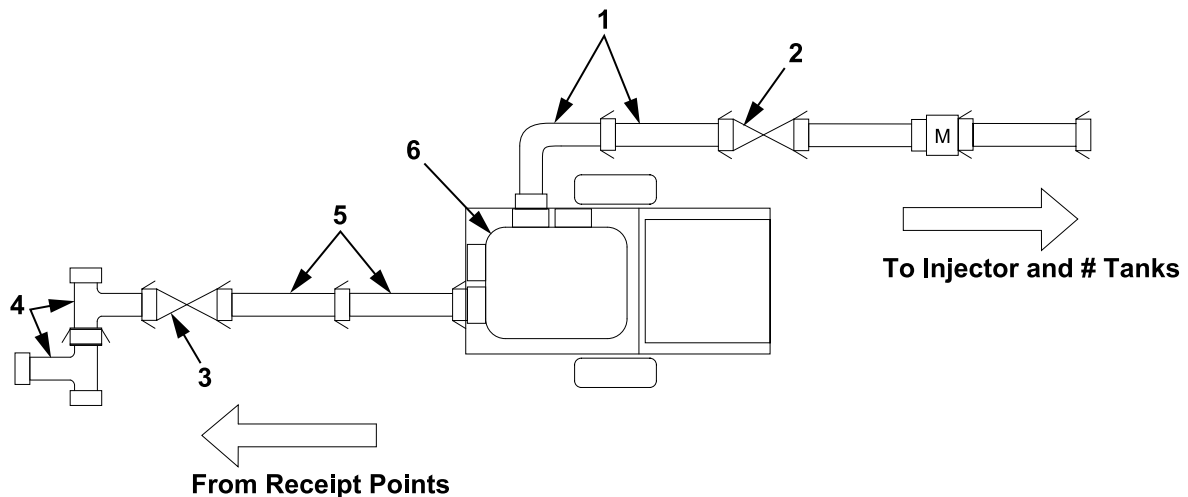

Figure 19. Installation of 350 GPM Fuel Pumping Assembly.
3. Connect two sections of 4 in. X 10 ft discharge hose (Figure 19, Item 1) to gate valve (Figure 19, Item 2).
6. Position the spill containment berm adjacent to the end of the two sections of 4 in. X 10 ft discharge hose (Figure 19, Item 1).
7. Position the 350 GPM fuel pumping assembly (Figure 19, Item 6) in the spill containment berm.
9. Connect the sections of 4 in. X 10 ft discharge hose (Figure 19, Item 1) to the 350 GPM fuel pumping assembly (Figure 19, Item 6).
11. Connect the two sections of 4 in. X 10 ft suction hose (Figure 19, Item 5) to the suction port of the 350 GPM fuel pumping assembly (Figure 19, Item 6).
13. Connect the female X female X male and female X male X female tee assemblies (Figure 19, Item 4) to gate valve (Figure 19, Item 3).